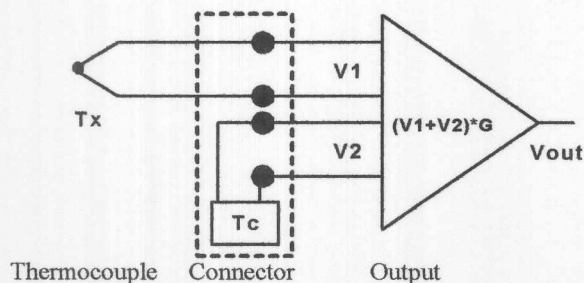

Figure 1
Modern signal conditioning modules have electronically resolved this situation and, in addition, have linearized the thermocouple voltages. These conditioning modules provide the end-user with a linear output signal, scaled to either volts per °C (°F) or amps per °C (°F). The concept of electronically referencing thermocouple measurements to zero °C is shown in Figure 1. This technique is known as “cold junction compensation” or CJC.
In Figure 1, the voltage V1 is Seebeck's thermocouple voltage generated by the difference between the unknown temperature (Tx) and the connector temperature (Tc), as shown in Equation 4. The connector temperature (Tc) is measured with a non-thermocouple sensor (diode, RTD, etc.) and the corresponding sensor voltage (V2) is electronically scaled to represent the same Seebeck thermocouple voltage (referenced to 0°C) that a thermocouple would read if used to measure Tc as indicated in Eqn. 5. This “V2 scaling” is matched to the same type thermocouple as used to measure Tx.
Equation 6 shows the thermocouple voltage (V1) has two parts, both of which are referenced to Tice. The voltage term, $S*(Tx-Tice)$, is the standard look-up table value needed for determining the unknown temperature (Tx). The term, $S*(Tc-Tice)$, is the voltage obtained if connector temperature (Tc) were measured with the same type thermocouple as used to measure Tx. Recall that V2 has been electronically scaled so that V2 equals this voltage, $V2 = S*(Tc-Tice)$. In Figure 1 if $G = 1$, then;
To achieve linearity, the gain (G) in Figure 1 and Equation 7 is internally programmed to selectively scale the voltage function $S^*(T_x - T_{ice})$ to be a linear function of temperature with the units of volts per $^\circ\text{C}$ ($^\circ\text{F}$) or milliamps per $^\circ\text{C}$ ($^\circ\text{F}$). For more details, examine AN505 "Hardware Linearization of Non-linear Signals" on Dataforth's website application note section, Reference 9. While on this web site, take a few moments to examine all of Dataforth's complete line of thermocouple signal conditioning modules.